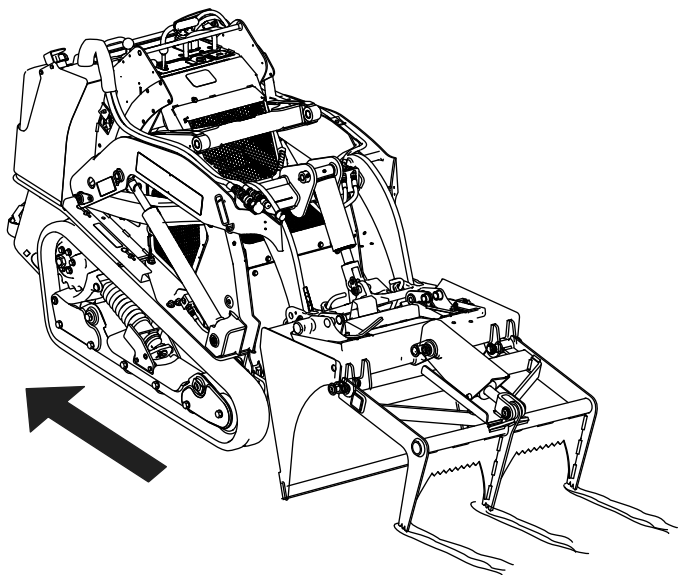

Figure 4
2. Drive the machine rearwards. To rake up loose sticks and other debris, which you can then grab with the jaws, place the teeth on the ground. To dig furrows in the earth and break up the sod, penetrate the ground with the teeth (Figure 4).